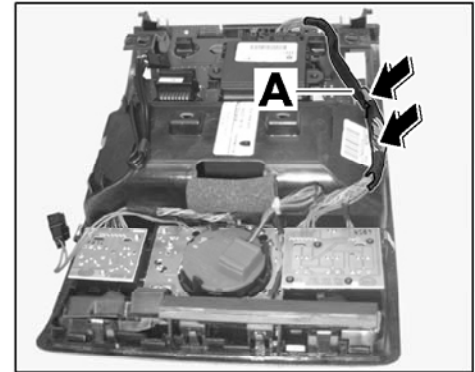

Figure 19
5.3 Route electric wire harness (retrofit kit) ⇒ *Figure 19-A*- under original wire harness ⇒ *Figure 19 -arrows-*.